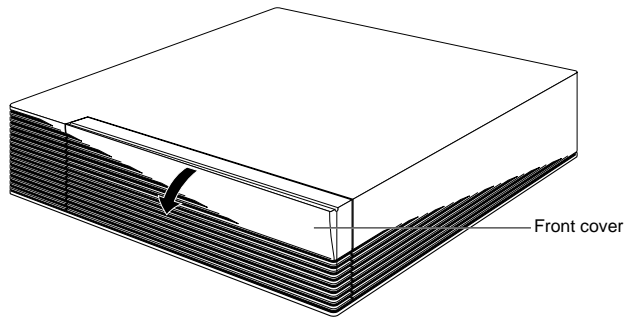

Figure 8-1 Removing the Front Cover From the Indigo² Chassis
- Open the front cover by snapping it away from the top edge of the chassis and tipping it down, as shown in Figure 8-1.